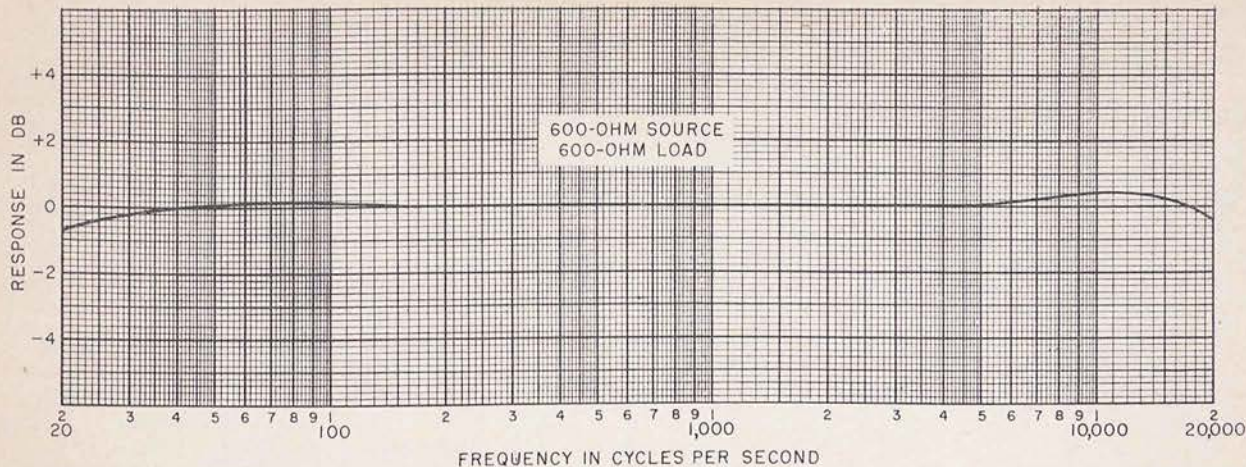

Figure 9. Normal frequency response of AF Amplifier AM-465/FR.
b. Frequency Compensation. The normal frequency response of AF Amplifier AM-465/FR, shown by the curve in figure 9, is flat throughout the audio range. It may be desirable to increase the response at either the high-frequency or low-frequency end of the range. If there is a partial loss of the low frequencies in the transmission of the incoming signal, there has to be an increase of gain or compensation at the lower frequency end of the amplifier response. If there is a partial loss of the high frequencies in the transmission of the incoming signal, there has to be an increase of gain at the higher frequencies to compensate for this loss. The curves in figures 10 and 11 show the increase in response that may be obtained by